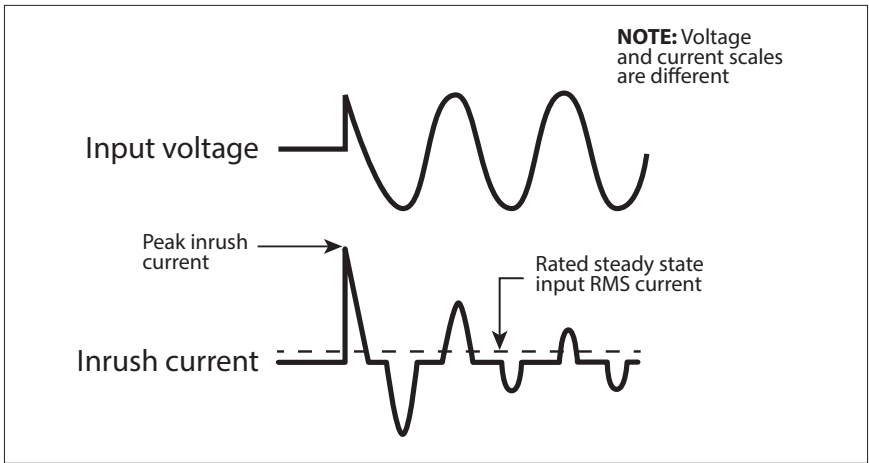

Fig 4.1: Inrush current in an SMPS
- **AC to DC Switched Mode Power Supplies (SMPS):** This type of power supply is used as stand-alone power supply or as front end in all electronic devices powered from Utility / Grid e.g. in audio/video/ computing devices and battery chargers (Please see Section 4 for more details on SMPS). When this power supply is switched ON, its internal input side capacitors start charging resulting in very high surge of Inrush Current for a few milliseconds (Please see Fig 4.1). This surge of inrush current / power may reach up to 15 times the Continuous Maximum Running Power Rating. The surge of inrush current / power will, however, be limited by the Surge Power Rating of the AC source.
**Power Factor, (PF):** It is denoted by “PF” and is equal to the ratio of the Active Power (P) in Watts to the Apparent Power (S) in VA. The maximum value is 1 for resistive types of loads where the Active Power (P) in Watts = the Apparent Power (S) in VA. It is 0 for purely inductive or purely capacitive loads. Practically, the loads will be a combination of resistive, inductive and capacitive elements and hence, its value will be  $> 0 < 1$ . Normally it ranges from 0.5 to 0.8 e.g. (i) AC motors (0.4 to 0.8), (ii) Transformers (0.8) (iii) AC to DC Switch Mode Power Supplies (0.5 to 0.6) etc.
Switch Mode Power Supplies (SMPS) are extensively used to convert the incoming AC power into various voltages like 3.3V, 5V, 12V, 24V etc. that are used to power various devices and circuits used in electronic equipment like battery chargers, computers, audio and video devices, radios etc. SMPS use large capacitors in their input section for filtration. When the power supply is first turned on, there is a very large inrush current drawn by the power supply as the input capacitors are charged (The capacitors act almost like a short circuit at the instant the power is turned on). The inrush current at turn-on is several to tens of times larger than the rated RMS input current and lasts for a few milliseconds. An example of the input voltage versus input current waveforms is given in Fig. 4.1. It will be seen that the initial input current pulse just after turn-on is > 15 times larger than the steady state RMS current. The inrush dissipates in around 2 or 3 cycles i.e. in around 33 to 50 milliseconds for 60 Hz sine wave.